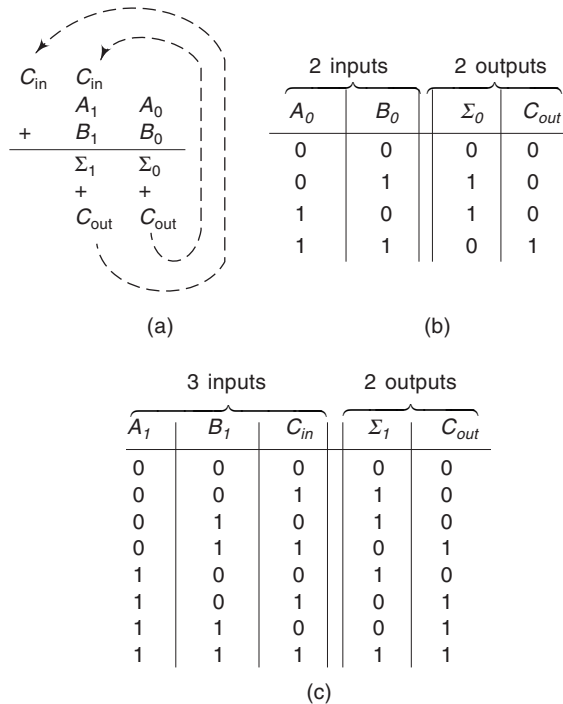
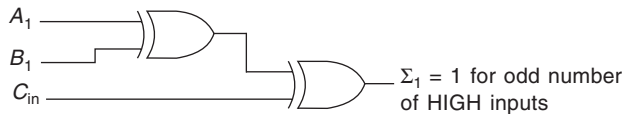
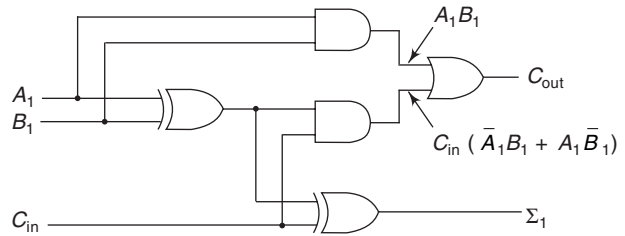

Fig. 10.4 (a) Addition of Two 2-bit Binary numbers (b) Truth Table for the LSB Addition; (c) Truth Table for the More Significant Column.
Fig. 10.7 The Sum (Σ_1) Function of the Full-adder is Generated from an Even-parity Generator.
Fig. 10.9 Logic Diagram of a Full-adder.
By reviewing the truth table in Fig. 10.4, we can determine the input conditions that produce each combination of *sum and carry output bits*. Figure 10.4 shows the addition of two 2-bit numbers. This could easily be *expanded* to cover 4-8-or 16-bit addition. Notice that addition in the least significant bit column requires analysing *only two inputs* (A_0 plus B_0) to determine the sum (Σ_0) and carry (C_{out}). But any more significant columns (2^1 column and above) require the inclusion of a *third input*, which is the carry (C_{in}) from the column to its right. For example, the carry-out (C_{out}) of the 2^0 column becomes the carry-in (C_{in}) to the 2^1 column. Figure 10.4(c) shows the inclusion of a third input for the truth table of the more significant column additions.
As shown in Fig. 10.4, addition in the 2^1 (or higher) column requires three inputs to produce the sum (Σ_1) and carry (C_{out}) outputs. In the truth table Fig. 10.4(c); for what input conditions is the sum output (Σ_1) HIGH? The answer is that the Σ_1 bit is HIGH whenever the three inputs (A_1, B_1, C_{in}) are *odd*. An even-parity generator produces a HIGH output whenever the sum of the inputs is odd. Therefore we can use an *even-parity generator* to generate Σ_1 output bit, as shown in Fig. 10.7.
The two parts of the full-adder circuit shown in Figs 10.7 and 10.8 can be combined to form the complete *full-adder* circuit shown in Fig. 10.9. In the figure the Σ_1 function is produced using the same logic as that in Fig. 10.7 (an EX-OR feeding an EX-OR). The C_{out} function comes from A_1B_1 or C_{in} ($A_1B_1 + A_1B_1$). A
10.20 Apply the following input bits to the adder of Fig. 10.9 to verify its operation ($A_1 = 0, B_1 = 1, C_{in} = 1$).